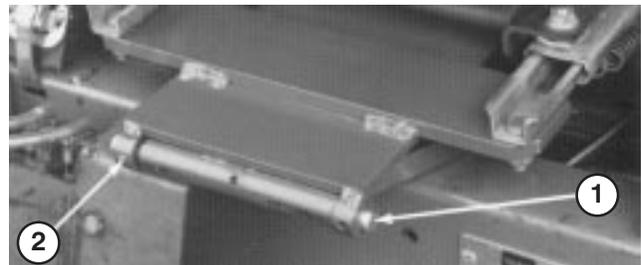

Figure 9
9. Mount seat and seat support to seat pivot bracket with pivot shaft and roll pin (Fig. 9).
11. Mount seat and seat support to seat pivot bracket with pivot shaft and roll pin (Fig. 9).